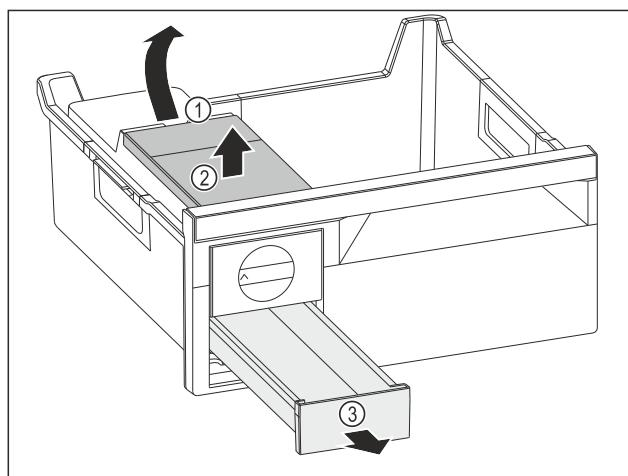

Fig. 85
- Removing the water tank: Lift the water tank by the recess Fig. 85 (1).
- Remove the water tank Fig. 85 (2) upwards.
- Remove the ice cube drawer Fig. 85 (3) to the front.